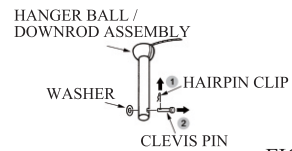

FIG.1
1. Remove the hairpin clip & washer from the clevis pin and remove clevis pin from down rod. (see Fig.1)
## 3. CONNECTING THE RECEIVER (FIG.1)